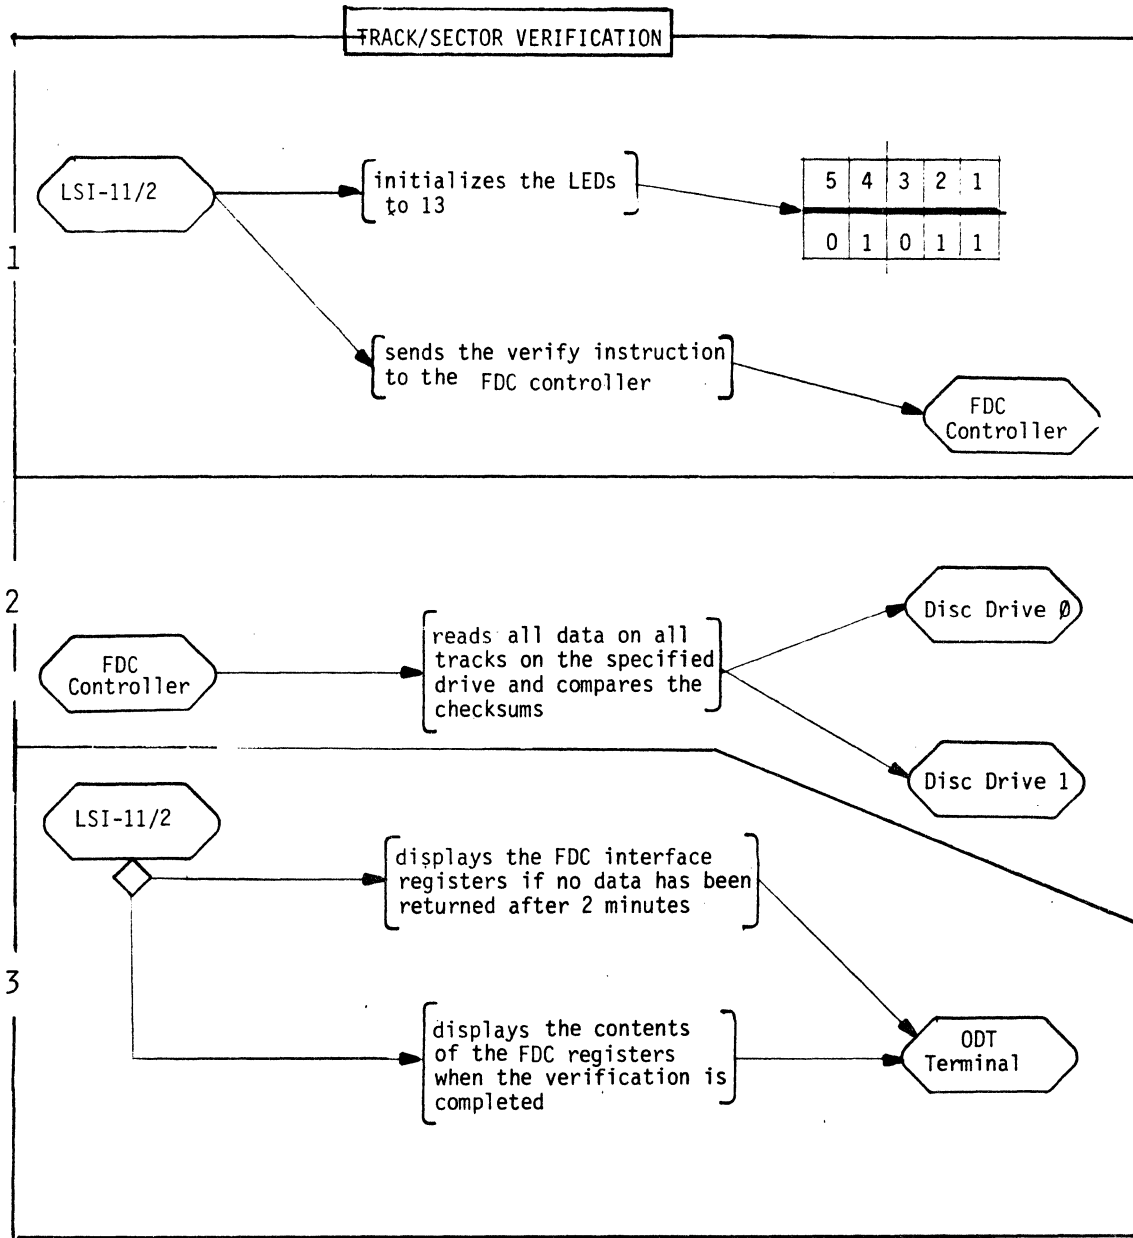

Fig. 3-23. Track/Sector verification.
1. TRACK/SECTOR TEST (Fig. 3-23). The test starts by setting the LEDs to 13 and sending instructions to the Flexible Disc Controller (FDC) board to verify the specified disc.